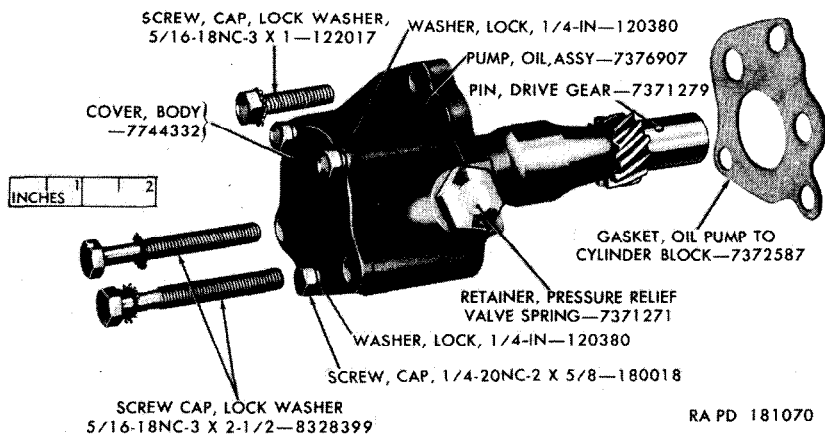

Figure 59. Oil pump assembly.
- a. Use an abrasive wheel or a file to cut off either end of the oil pump drive gear pin (fig. 59). Drive the pin out of the gear, using a $\frac{3}{16}$ -inch drift punch. Remove the gear from the end of the shaft.
- b. Remove the three cap screws securing the oil pump body cover (fig. 59) to the oil pump body. Remove the cover and gasket.
- d. Back the pressure relief valve spring retainer (fig. 59) out of the oil pump body and remove the retainer gasket, the shim, the pressure relief valve spring, and the pressure relief valve.